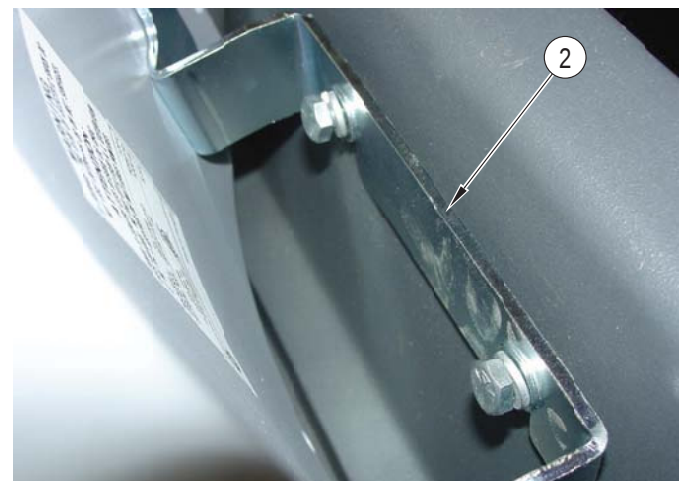

FIGURE 3
5. See Figure 3. Slide bracket attached to active vacuum over screws and tighten screws securely. Attach elbow on vac hose to elbow on vac inlet.